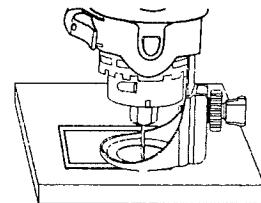

Fig. 7
8. When the motor is up to full speed, slowly tip the tool to an upright position, letting the bit cut into the workpiece (see Fig. 7). Once the tool has reached the upright position and the bit has cut through the workpiece, slowly move the tool in a clockwise direction using slow steady pressure to make the cut.